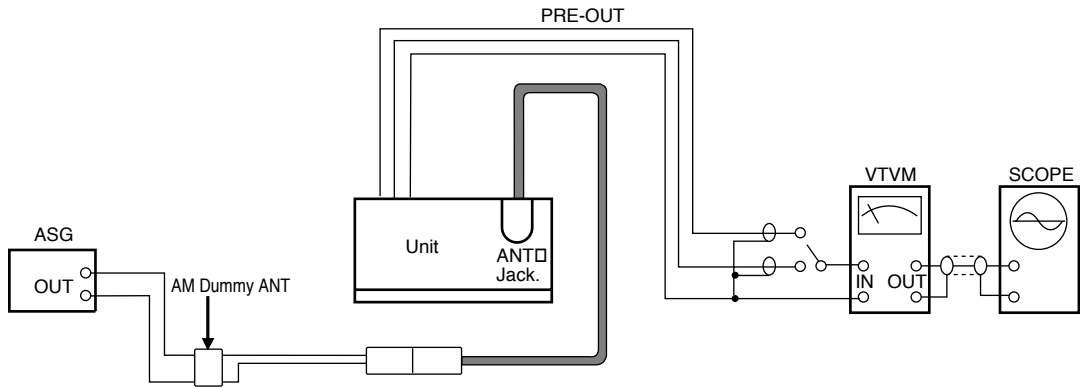

Figure 4.
2. Connect as shown in figure 4.